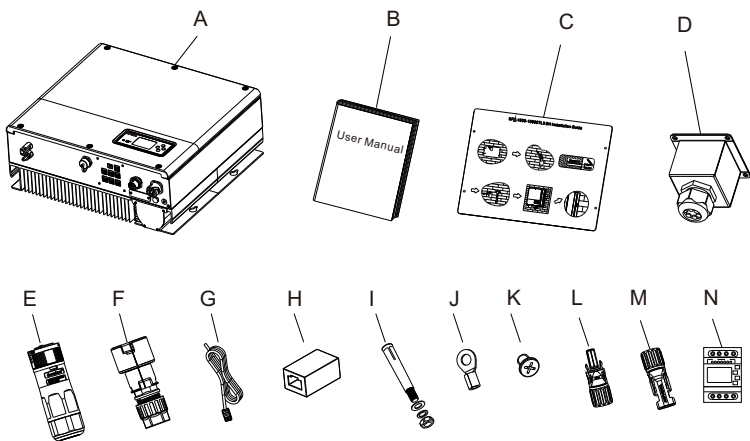

Figure 4.1
**Note:** Locking screws (for details of the accessory kit, see Figure 4.1).